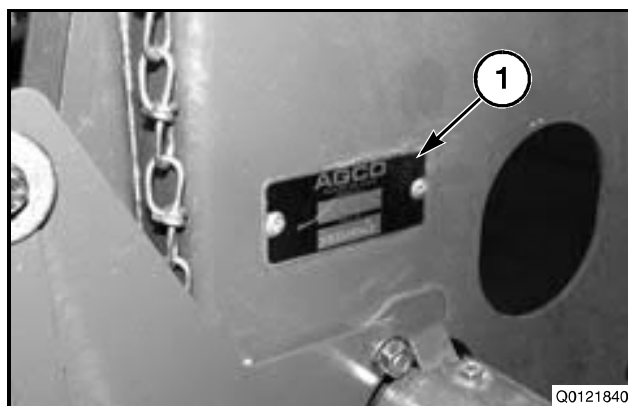

FIG. 1
FIG. 1: Each machine is identified by type and serial number on the serial number plate (1). The serial number plate on the header is located to the left of the combine interface.